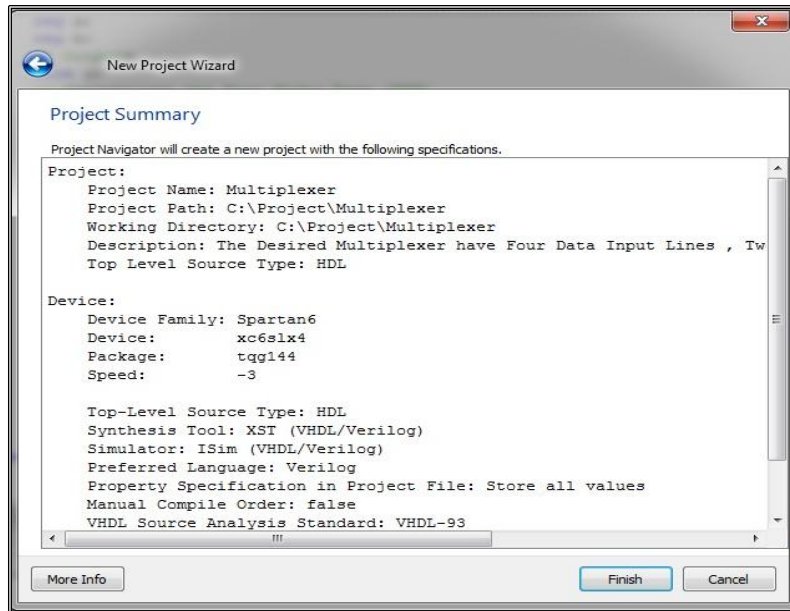

Fig 2.4: Project Summary
5. Verify the **Project Summary** and click **Finish** (Fig 2.4).